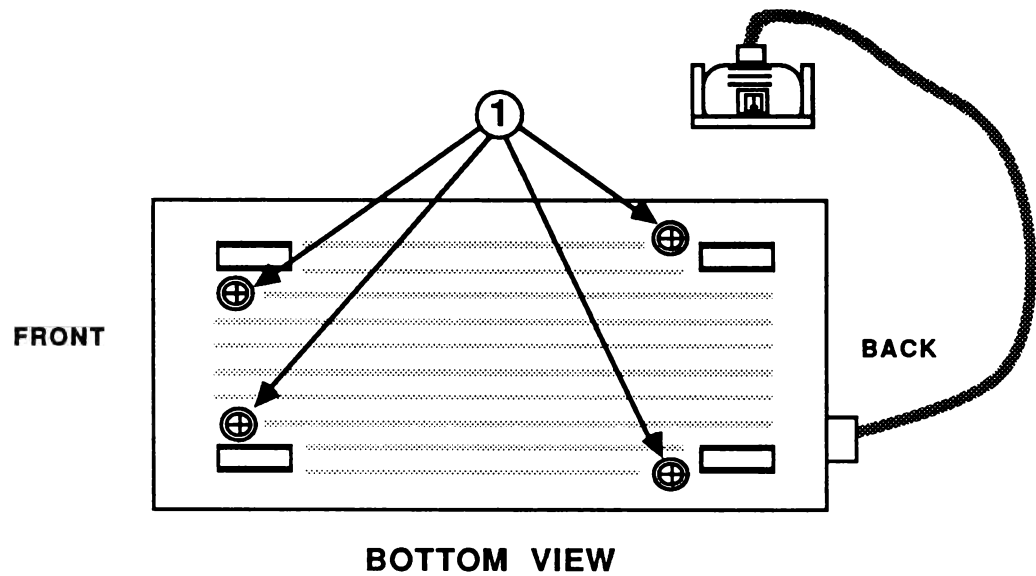

FIGURE 1
2. Remove the four screws (Figure 1, #1).
2. Replace the four screws (Figure 1, #1).